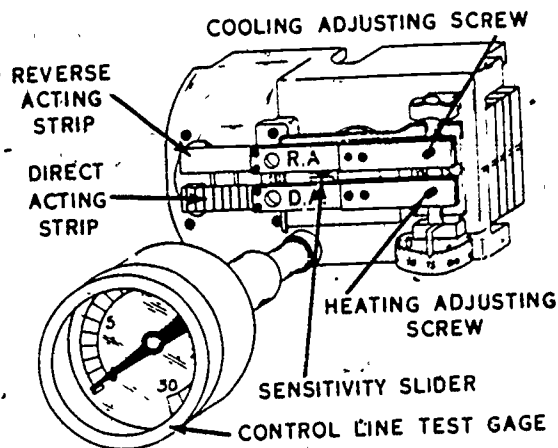

Figure 2-56. Heating-cooling thermostat with a test gage installed.
- (1) With 15 psig supply air pressure applied to the instrument, remove the capscrew and insert a control line test gage into the opening, as illustrated in figure 2-56.
- (2) Check the ambient temperature at the sensing elements.
- (3) Set the dial at this temperature.
- (4) Turn the heating adjusting screw until the control pressure is in the middle of the spring range of the controlled device.
- (5) Turn the dial to the desired temperature set point for the heating cycle.
- (6) Change the supply air pressure to 19 psig.
- (7) Again check the ambient temperature at the sensing elements. Note the following conditions: